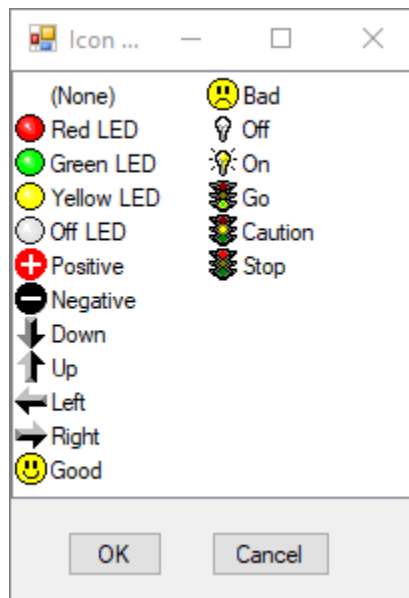

Figure 114 – Icon List
4. Select icons for each stat by selecting the icon field, clicking the browse button, and then selecting an icon from the icon list. (See Figure 114 – Icon List).